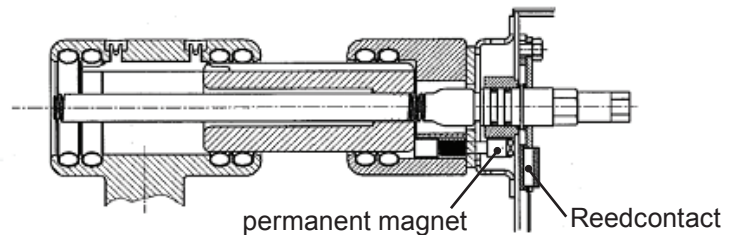

*Fig. 6.2.1: Three position disconnecter in disconnecter ON position*
The switch (fig. 6.2.1) has its disconnected position in the central position. In the disconnecter ON and earthing switch ON limit positions, the moving contact (sliding part) (2) driven by an insulating spindle (1) reaches the fixed contacts (disconnecter contact (3) or earthing contact (4)) which are fitted with one or two spiral contacts.